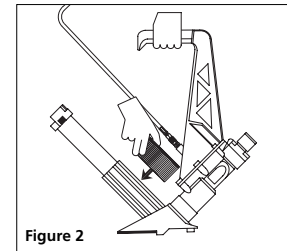

Figure 2
2. Place the staples straddling the top of the magazine (See figure 2).